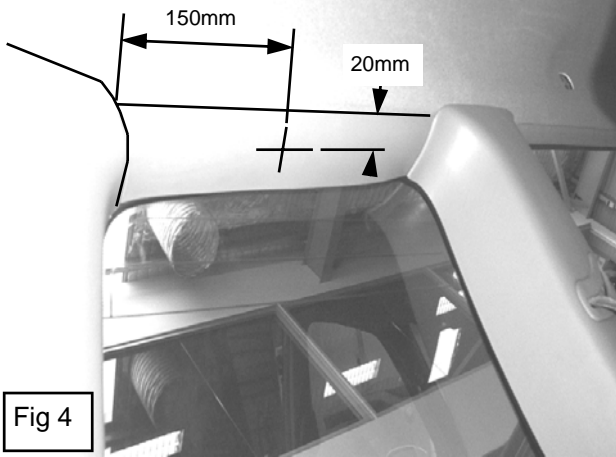

Fig 4
3. From point where hard trim meets rear pillar trim measure 150mm forward as shown in Fig. 4. Mark this location.
4. From inside edge of hard trim measure 20mm towards glass as shown in Fig. 4. Mark this location.